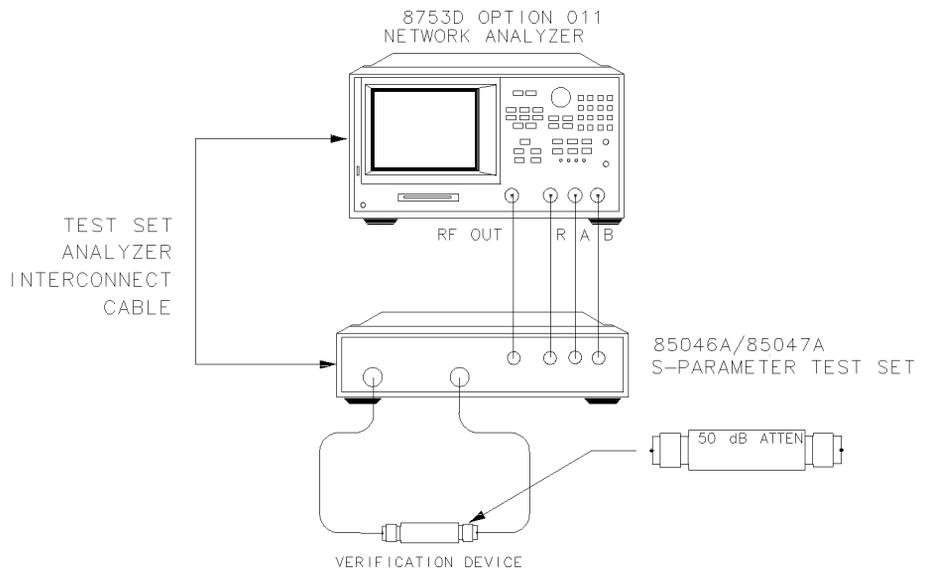

Figure 5-5. Connections for the 50 dB Verification Device
- 4 When the analyzer finishes all the measurements, connect the 50 dB attenuator (supplied in the verification kit), as shown in Figure 5-5.